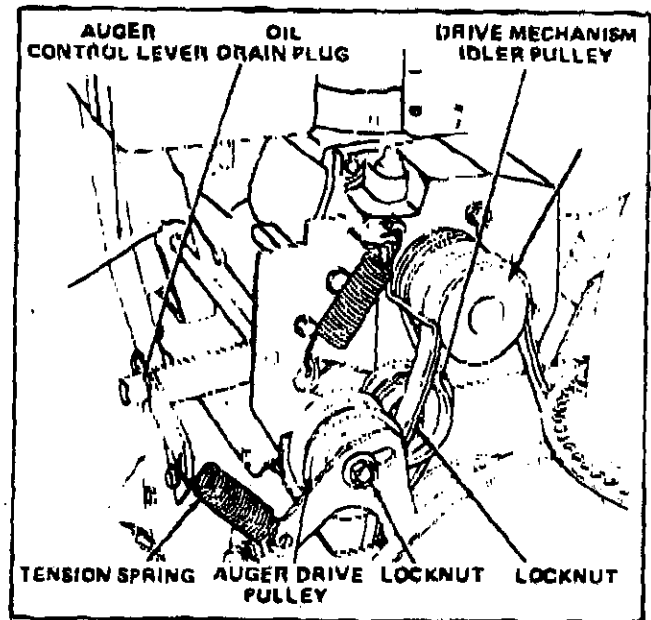

Figure 17
If adjustment becomes necessary due to wear or stretch of belt, loosen locknut idler pulley (figure 17) and push idler pulley toward belt until sufficient tension is achieved. Tighten pulley securely. Auger drive belt (farthest from engine) is engaged with engine pulley only when auger control lever is in ENGAGE position. Place auger control lever in ENGAGE position and adjust belt tension in same manner as described for drive mechanism belt.
- B. Remove oil drain plug (figure 17, page 9).